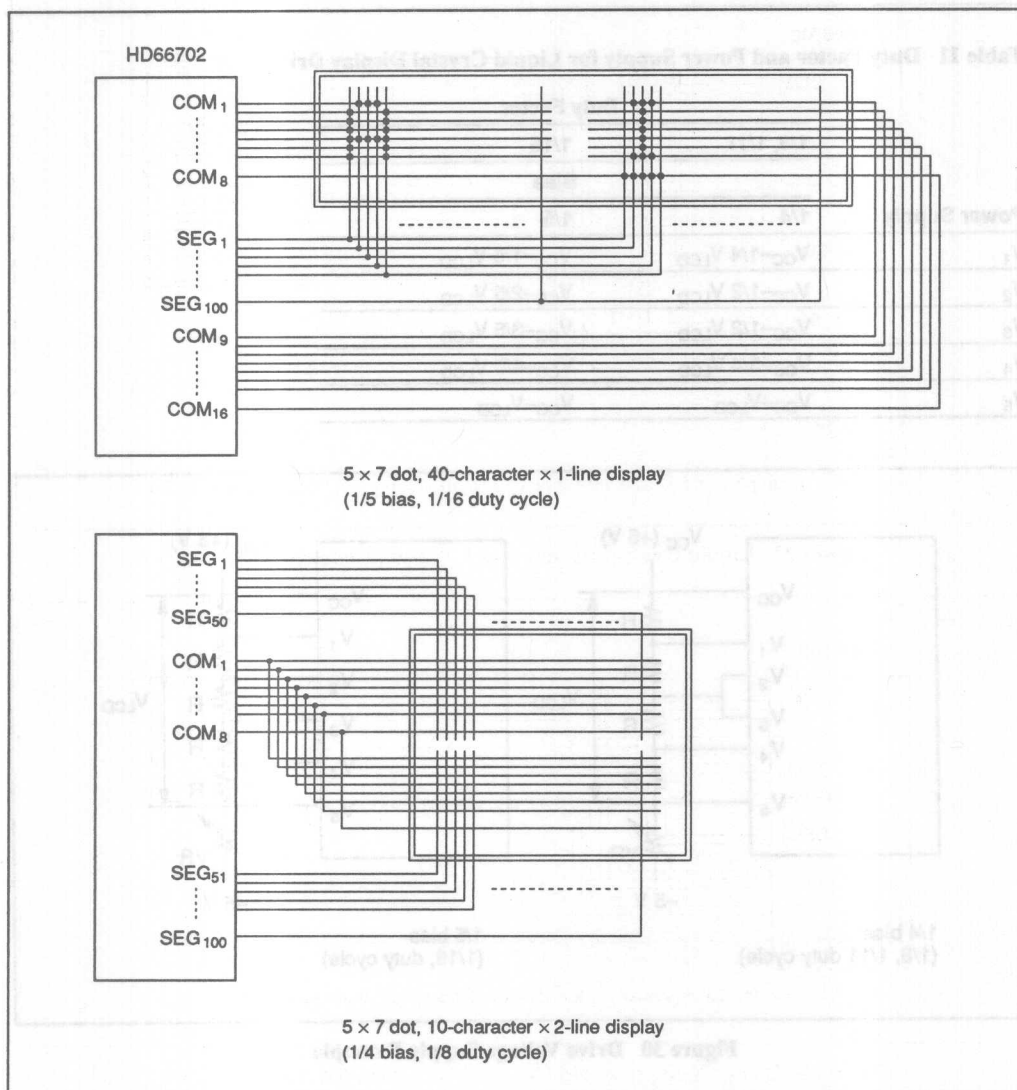

Figure 29 Changed Matrix Layout Displays
**Connection of Changed Matrix Layout:** In the preceding examples, the number of lines correspond to the scanning lines. However, the following display examples (figure 29) are made possible by altering the matrix layout of the liquid crystal display panel. In either case, the only change is the layout. The display characteristics